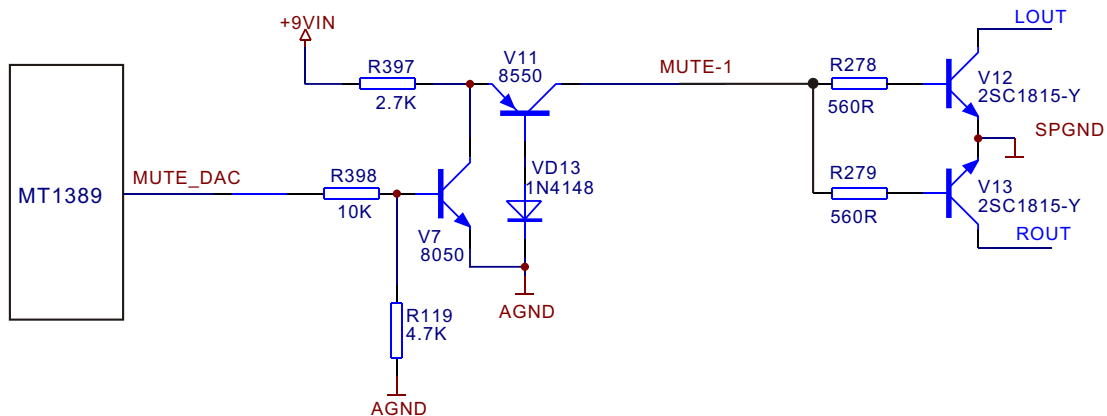

Figure 3.2.14.1 Mute circuit diagram
1. Mute circuit is shown as in the following figure 3.2.14.1: